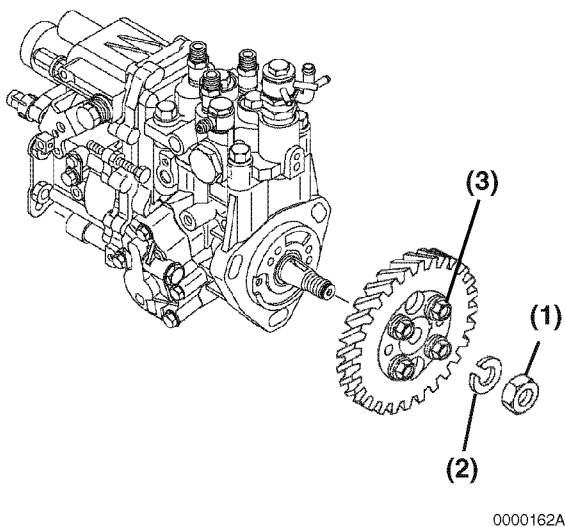

Figure 6-92
4. Do not remove the fuel injection pump drive gear unless absolutely necessary to avoid damage to the gear or pump. Do not loosen or remove the four bolts (**Figure 6-92, (3)**) retaining the pump drive gear to the hub. Only remove the nut (**Figure 6-92, (1)**) and washer (**Figure 6-92, (2)**), leaving the hub attached to the gear. Remove the pump drive gear and hub as an assembly using a gear puller.